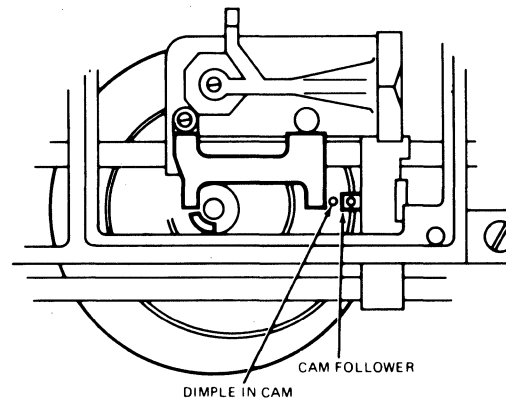

FIGURE 5. TRACK ZERO POSITION
- Rotate head cam actuator until the cam follower is opposite the track zero dimple on the cam. Reference figure 5.